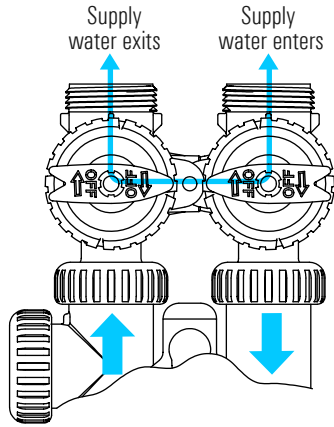

FIGURE 3.
STEP 2. Press and hold the REGEN button on the Triton Valve until you hear the motor engage. This will initiate an immediate manual regeneration of the system. Turn the bypass valve to "diagnostic" mode position (see figure 3 on page 9). The screen will indicate "BACKWASH". You should hear water entering the system. Wait a few minutes to ensure the control valve can draw water and does not leak. Let the tank fill and begin to push water out the drainline. Allow the system to backwash until the water going to drain is clear. If everything is working, press and release the REGEN button. You will hear the motor engage and move the piston into the "RINSE" position. Again, check for leaks anywhere on the tank/valve or connections. Allow valve to continue pushing water to the drainline until the water coming out of drainline is clear. After a few minutes, you will hear the motor engage and move the piston into the "SERVICE" position. If the water coming out of the drainline is not clear by the end of the above cycles, repeat Step 2 above with bypass in "diagnostic" position.
Figure 3. Diagnostic Position: The inlet handle points in the direction of flow and the outlet handle points to the center of bypass valve, system water pressure is allowed to the control valve and the plumbing system while not allowing water to exit from the control valve to the plumbing.